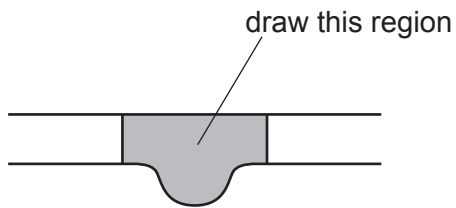

Fig. 2.1
- (a) (i) Draw a large plan diagram of the region of the leaf on **J1**, indicated by the shaded area in Fig. 2.1. Use a sharp pencil.